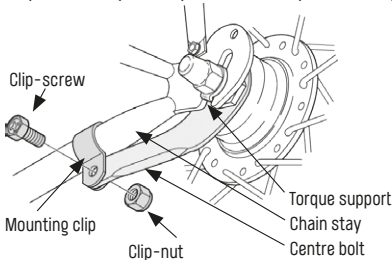

Fig. 3/29 Centre bolt; source Shimano
- Coaster brakes are fitted with a centre bolt (“Fig. 3/ Centre bolt; source Shimano” on page 29), which rests on the chain stay of the frame. For correct operation, it must be firmly mounted using a fastening clip or directly on the chain stay.